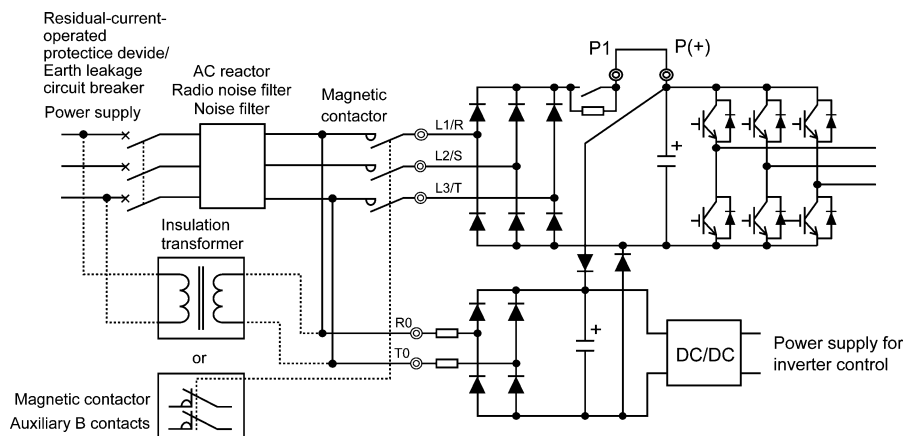

Figure 2.8 Connection Example of Residual-current-operated Protective Device (RCD)/Earth Leakage Circuit Breaker (ELCB)
**Note** When introducing a residual-current-operated protective device (RCD)/earth leakage circuit breaker (ELCB), connect its output (secondary) side to terminals R0 and T0. Connecting its input (primary) side to those terminals causes the RCD/ELCB to malfunction since the input power voltage to the inverter is three-phase but the one to terminals R0 and T0 is single-phase. To avoid such problems, be sure to insert an insulation transformer or auxiliary B contacts of a magnetic contactor in the location shown in Figure 2.8.